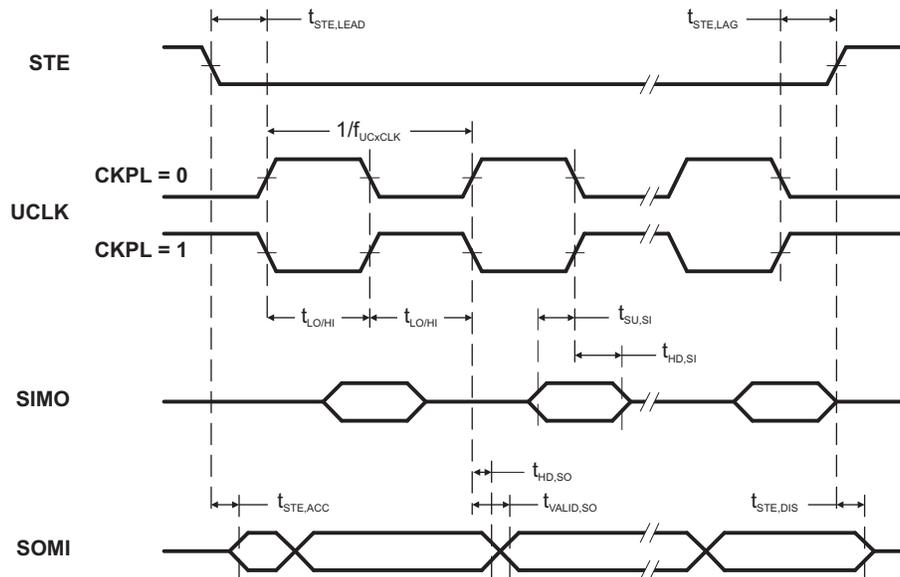
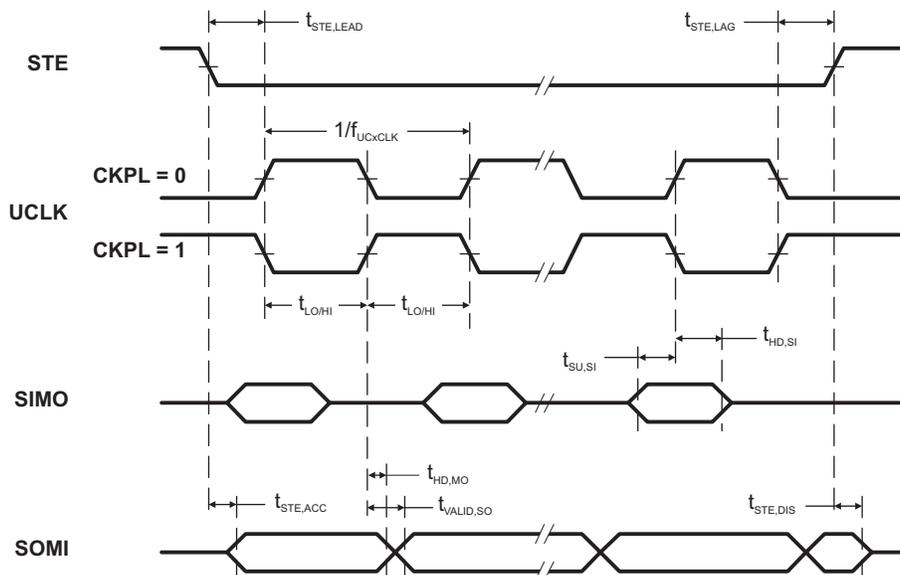

Figure 13. SPI Slave Mode, CKPH = 0
Figure 14. SPI Slave Mode, CKPH = 1
(see Note (1), Figure 13 and Figure 14)